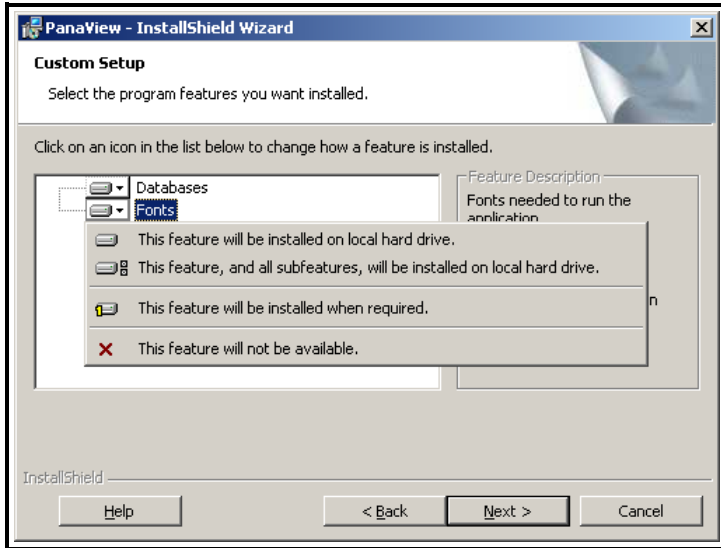

Figure 2-9: Feature Installation Menu for Custom Setup
- b. Click on the icon to the left of the highlighted feature. A pop-up menu appears, as shown in Figure 2-9 below.